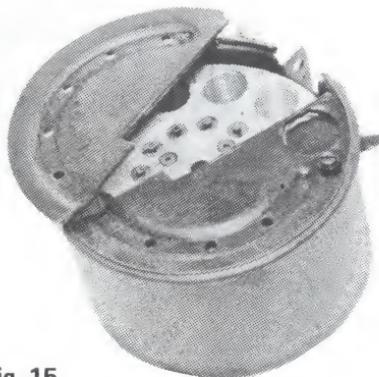

Fig. 15
7. Remove half plates. Left hand side first. When removing right hand cover half plate, open aperture cover. (Fig. 15).
2. Fit both half plates into the retaining grooves of magazine cover with open section to the top mounting brackets. First, right hand cover half plate. (Fig. 15).